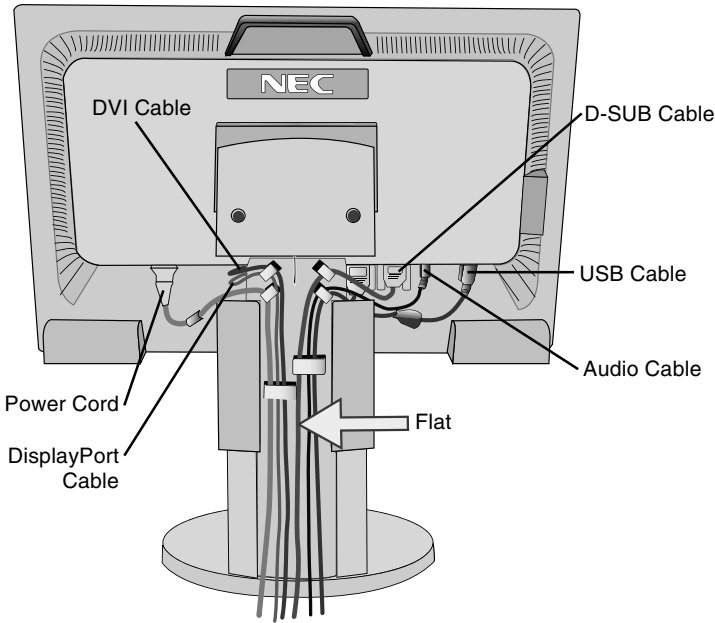
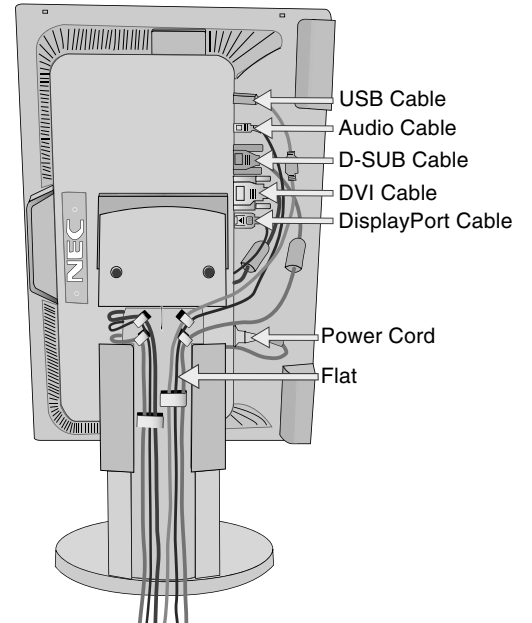

Figure C.2
Figure C.3
- 5. To keep the cables neatly organized, place them into the cable management system that is built into the stand. Place the Power cord and DVI cables into the specific hooks, as indicated in **Figure C.2/Figure C.3**. Place the D-Sub and the USB cables into the specific hooks, as indicated in **Figure C.2/Figure C.3**.
- 6. Make sure all cables are resting flat against the stand (**Figure C.2/Figure C.3**). Please check Tilt, Rise and Lower monitor screen and screen rotation when you manage cables.